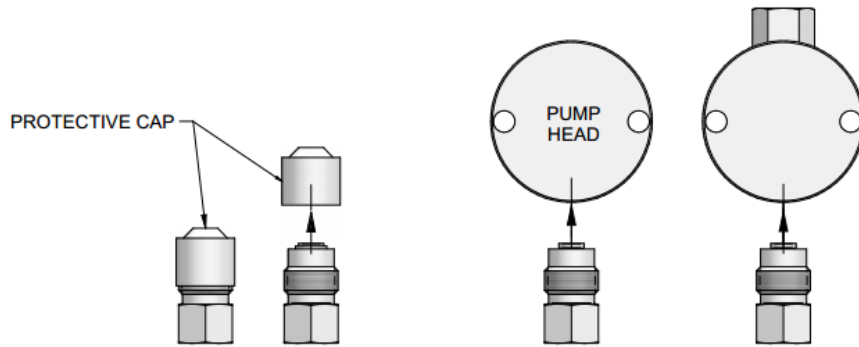

Figure 8, New Check Valves from package and proper orientation.
If this procedure does not return the pump to proper performance, the check valves should be replaced. An example of new check valves from their package can be seen in *Figure 8* below.
3. Hold one new check valve assembly as shown in *Figure 8*, and unscrew the protective cap. With the check valve assembly maintained in the above position, thread it into the proper pump head port until it is snug. Install the other check valve assembly similarly.